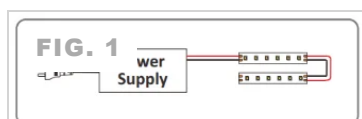

Fig. 1 · Continuous single run
- 01 Continuous single run.** Strip powered from one end. Strips farthest from the supply are more likely to exhibit voltage drop. (FIG. 1)